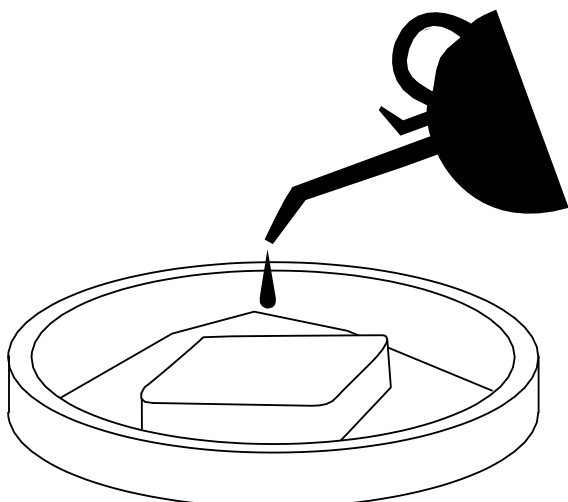

Figure 33
10. Once the air filters are dry, coat the air filters with clean engine oil (see *Figure 33*).